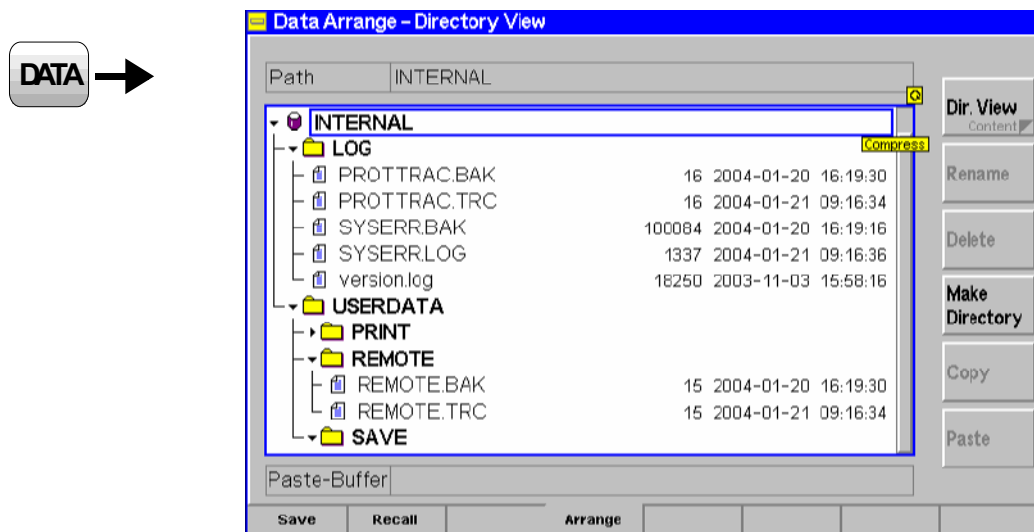

Fig. 4-18 Data – Arrange menu
*Dir. View/Content* toggles between the directory view (see Fig. 4-18 above) and the overview of function groups and test modes contained in a configuration file (\*.SAV). The *Content* view is available for configuration files only: